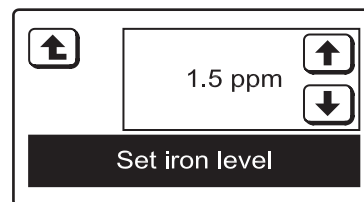

FIG. 49
3. Press the SET IRON LEVEL button and the display will change to show the **Set iron level** screen (See Figure 49).